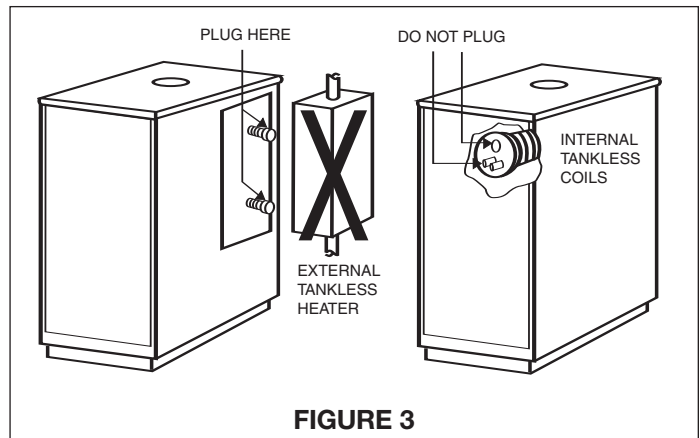

FIGURE 3
**⚠ DANGER** PREVENT PRESSURE BUILD-UP IN ANY EXISTING INTERNAL TANKLESS COIL. Do not plug incoming or outgoing tappings in the internal tankless coil plate. Leave the coil in the boiler and leave system connections open, to prevent pressure build-up. (Figure 3)